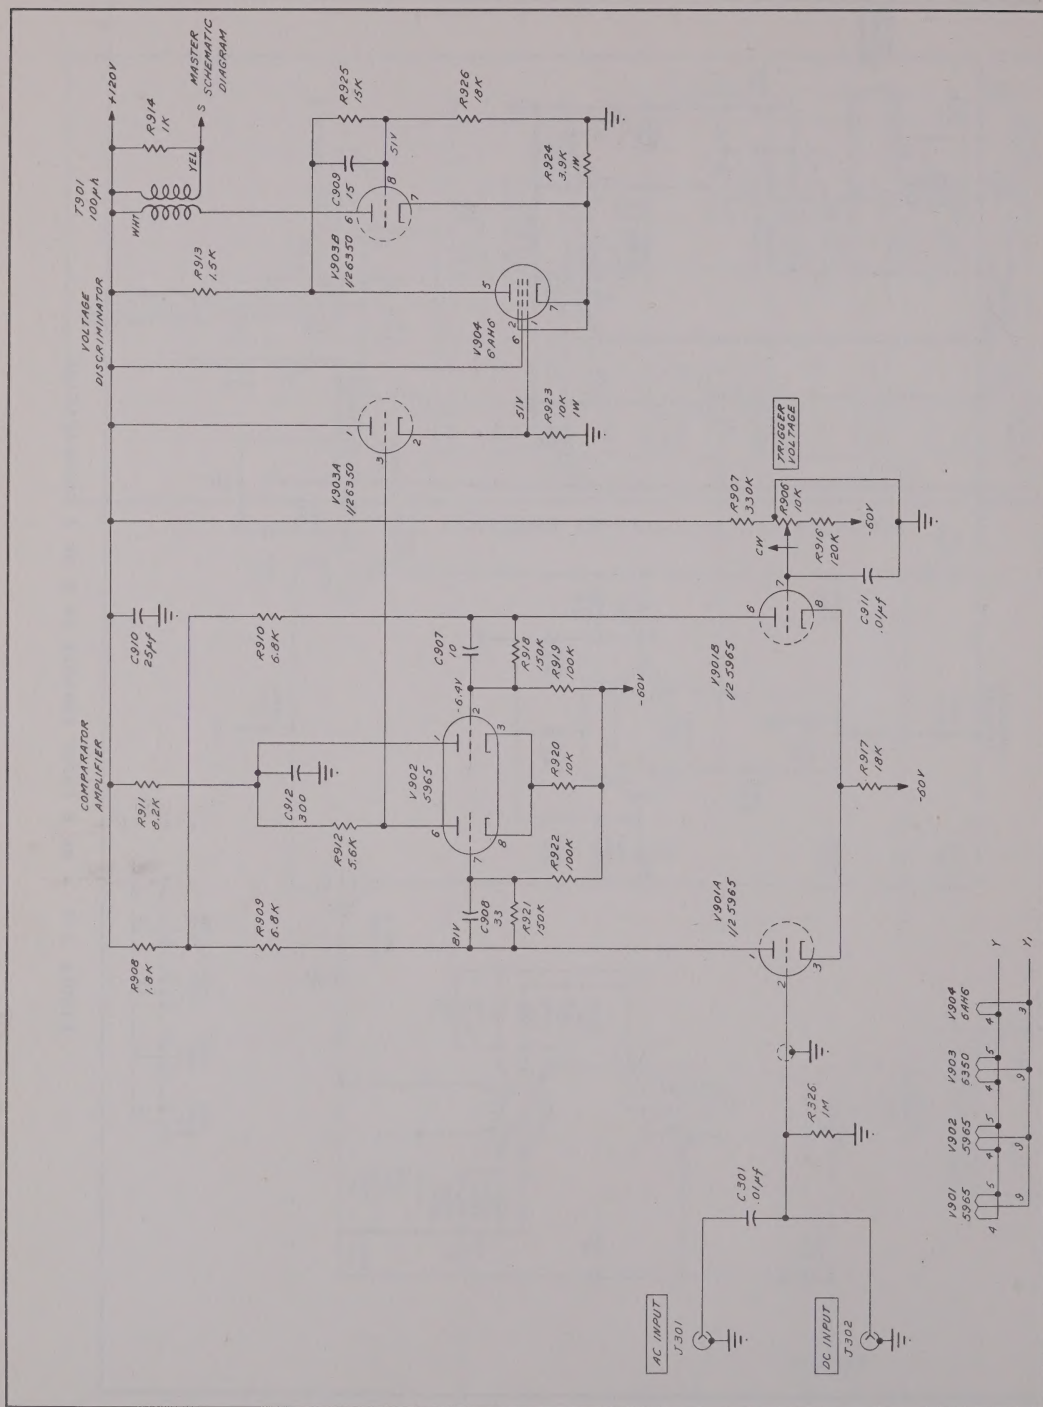

FIGURE J-4 C INPUT CHANNEL IN 2 MC J MODIFICATION
- In addition, any input channels required to operate between 1 mc and 2 mc in count modes are supplanted by faster channels with a cathode-follower between the comparator amplifier and the voltage discriminator. These 2 mc input channels are shown in Figure J-3 (A or B channels, where appropriate) and Figure J-4 (C channel only).